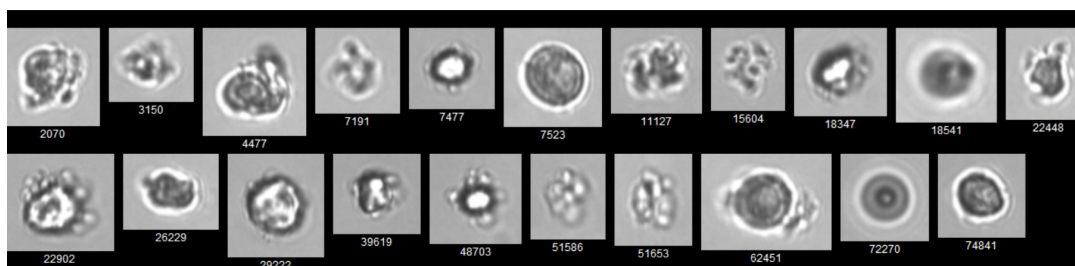

Fig 1. Oil droplets, solids, and oil-solids aggregates in a produced water sample imaged by the FlowCam Nano
- Images produced water samples and analyzes particulates (Fig. 1)